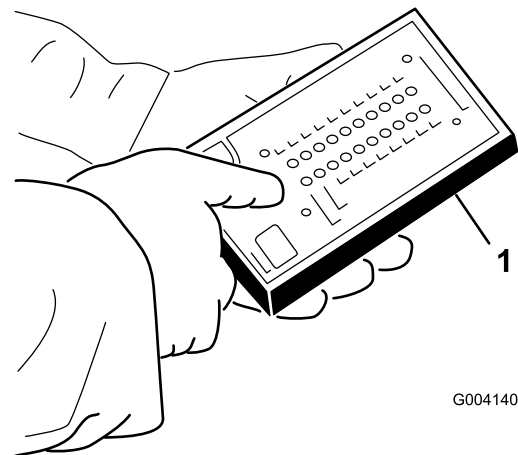

**Figure 47**
3. Locate the wire harness and connectors near the controller (Figure 47).